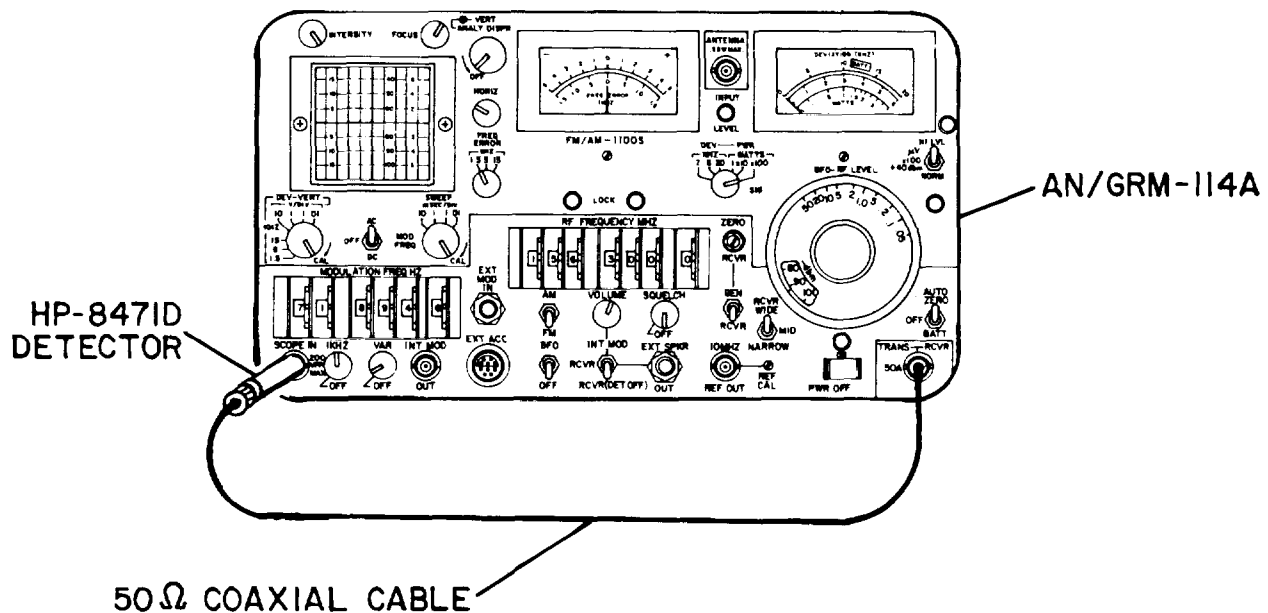

Figure 4-2. RF Transmission Cable, Reference Level Test Setup
- (1) Refer to figure 4-2. Connect the equipment as shown.
- (2) Set the oscilloscope controls of the AN/GRM-1 14A for DC coupling, 1 mSEC/DIV sweep, 0.01 Volts/DIV vertical sensitivity.
- (3) With no input connected to the SCOPE IN jack, adjust positioning controls to center the trace.
- (4) Set signal generator controls of the AN/GRM-1 14A to produce a 30 MHz signal at 0 dBm.
- (5) Connect RF detector to the SCOPE IN jack.
- (6) Adjust the RF signal level to produce a vertical deflection of the oscilloscope trace of 3 divisions.